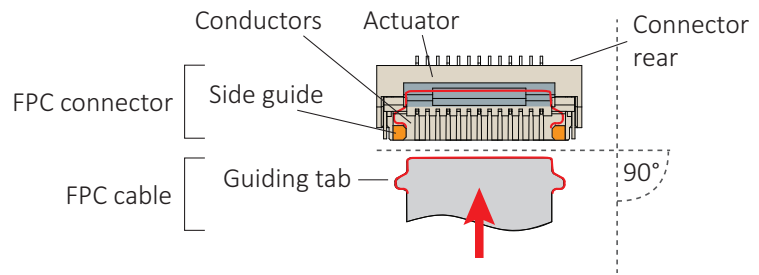
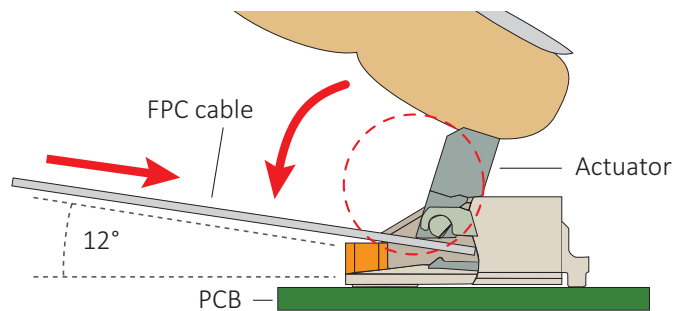

Figure 14: FPC cable and FPC connector
Figure 15: Engaging the FPC cable in the FPC connector
2. **Ensuring proper cable orientation between devices to be connected**, take the FPC cable with conductors facing the FPC connector conductors (see Figure 14 on page 41).
At a horizontal angle of 90° to the connector's rear (see Figure 14) and at a vertical angle of 12° to the PCB (see Figure 15), slowly insert the FPC cable into the actuator...
4. ...until cable guiding tabs are caught between connector rear and side guides (see Figure 14). Pull the cable slightly to ensure guiding tabs are properly engaged.
5. Holding the FPC cable in position, flap down the actuator to closed position (see Figure 15).